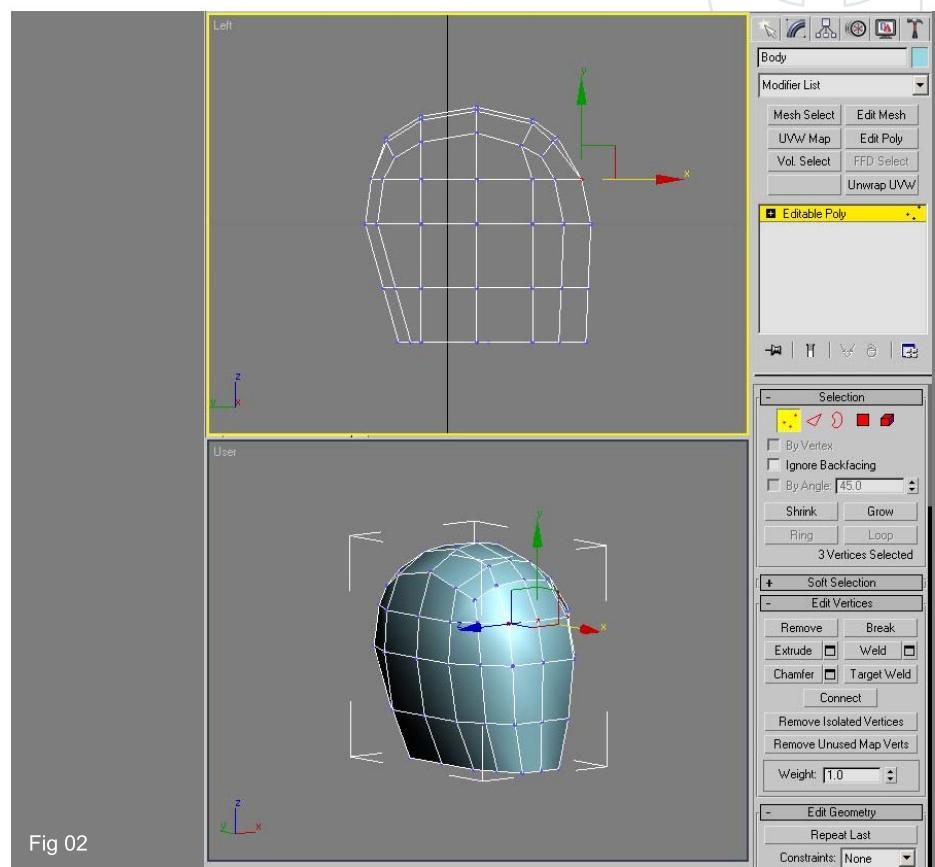

Fig 02
2. With our box now converted to an Editable Poly we can now begin shaping it at the sub-object level, ie. vertex, face, edge etc. Select the vertex level under selection and begin by moving the verts in the left or right viewports first to get the rough profile shape. Be sure to keep the "Ignore Backface" box unchecked so that you select all the verts across the mesh, evident in the User viewport. In this way we can keep our mesh symmetrical on both sides of the center (Fig02). I find it is best to work in a profile view and move the verts into a reasonable shape and then switch to the front view and do the same.